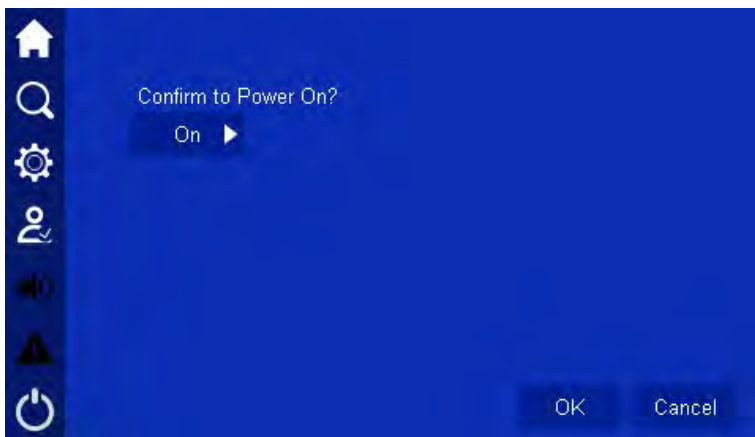

Figure5-2 Start confirmation page
4. Click  icon in system management page, it will enter ON/OFF page, click **OK** button to perform the startup operation, as shown in Figure5-2.